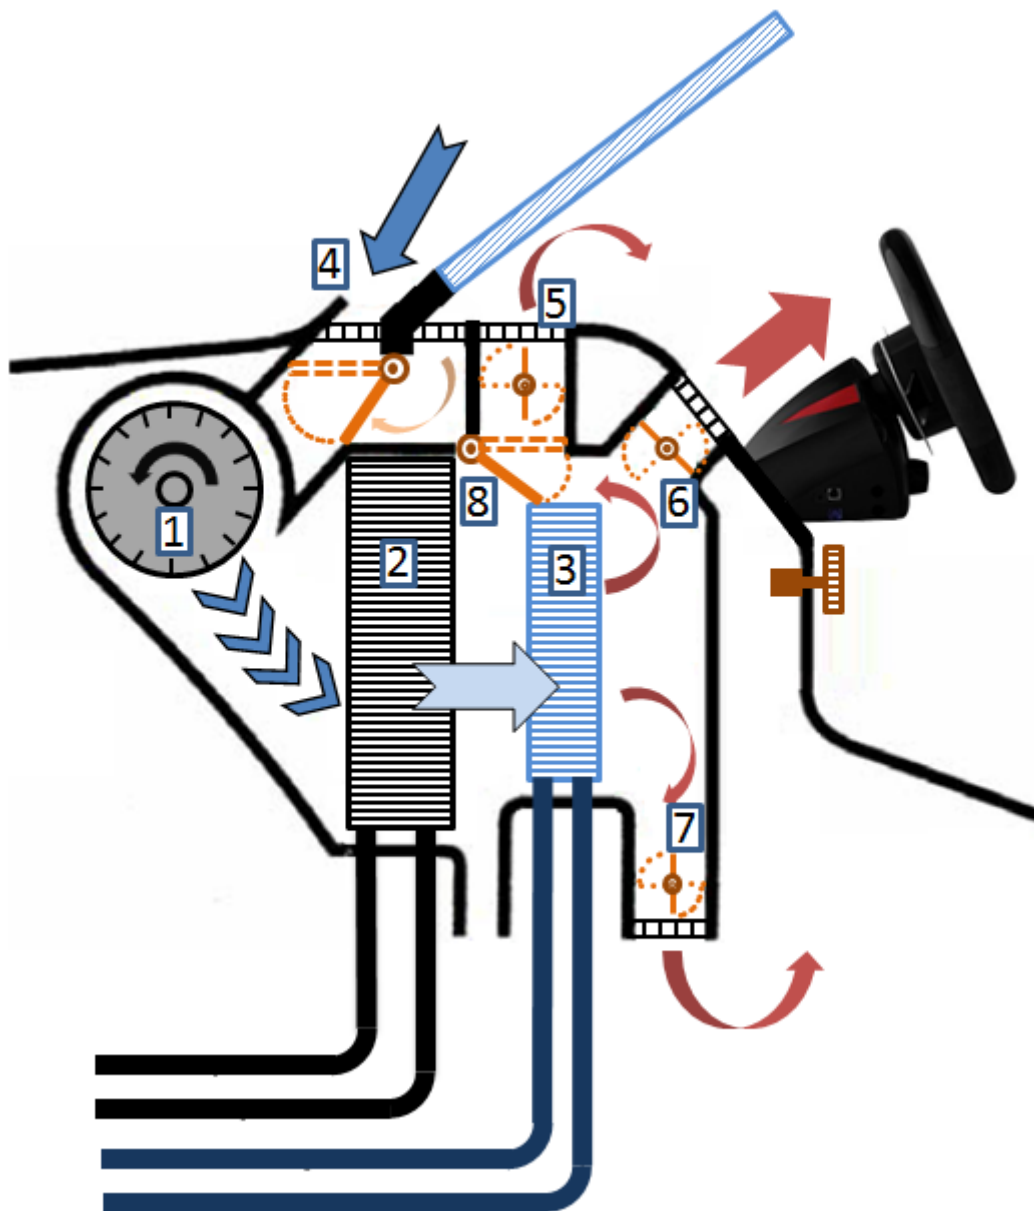

Figure 1. A Car HVAC with Eight Components: 1 = Blower, 2 = Evaporator, 3 = Heater, 4 = Intake Air Flap, 5, 6 and 7 = Air-distribution Flap, 8 = Air-mixing Flap
Figure 1 is a side view of an HVAC system. Numbers mark the key components, while arrows show the direction of air distribution. Components 4 through 8 in Figure 1 show the flap actuators. The orange dotted lines represent the area where the flaps are moving, and the solid orange lines represent the flaps. The number of flap actuators in an HVAC system depends on the overall complexity of the system – if it has single or multiple-zone HVACs.
- Intake air-flap actuator (component 4 in Figure 1): This flap actuator controls whether the source of air for conditioning will be outside air or recirculated cabin air. This flap actuator position is controllable by the driver using the recirculate button, or by the HVAC system using data from in-cabin air-quality sensors.
- Air-mixing flap actuator (component 8 in Figure 1): This flap actuator mixes the warm (heat exchanger) and cool (evaporator) air in order to achieve the desired air temperature.
- Air distribution flap actuator (components 5, 6 and 7 in Figure 1): These flap actuators, which could vary in number based on the vehicle class, distribute the air inside the cabin.